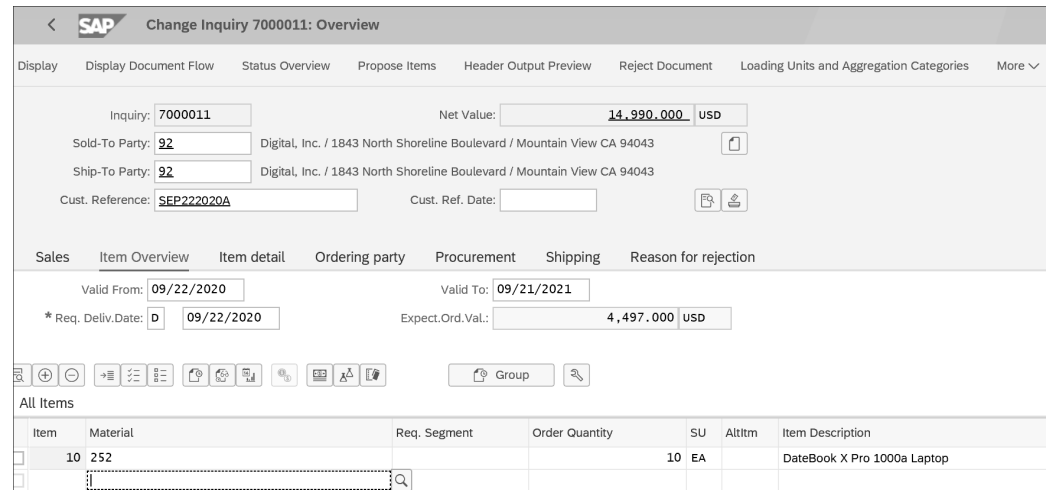

Figure 4.39 Change Inquiry: Overview Screen
3. Click on the desired link in the context menu (for this example, **Change Inquiry**). The **Change Inquiry: Overview** screen appears, as shown in Figure 4.39.